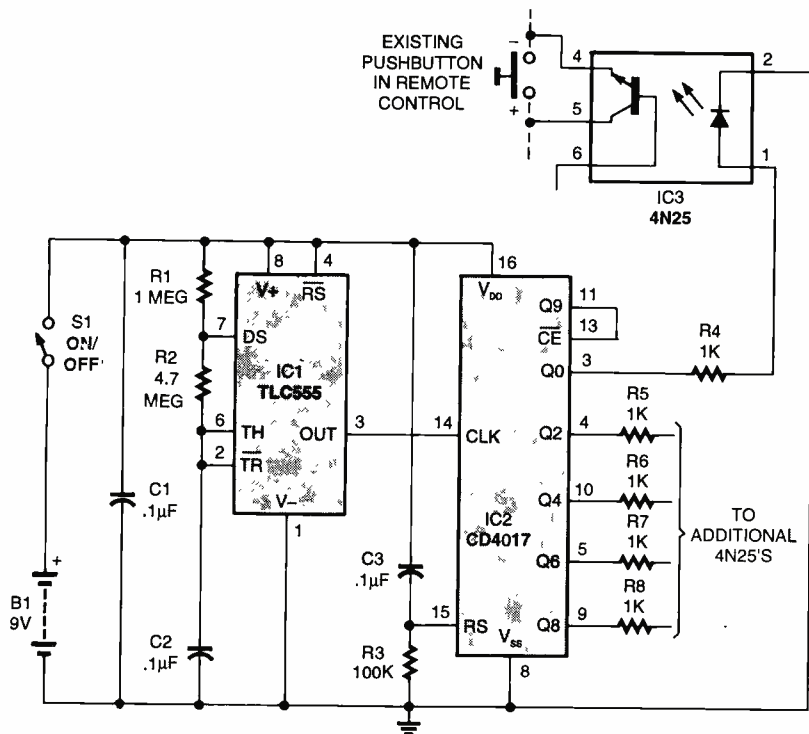

Fig. 2. This circuit "presses" five buttons sequentially on a universal remote control.
**A** If the time delays are critical, this is a job for a programmed microcontroller; but if you can accept slightly different timing, the circuit in Fig. 2 should be sufficient. When power is turned on, it "presses" each button for about 1.5 seconds and then waits 1.5 seconds before pressing the next one. After the fifth button, the action stops.
If you choose to use a microcontroller, write a program that outputs the binary patterns 00000001, 00000000, 00000010, 00000000, 00000100, 00000000, 00001000, and 00000000—each for the right length of time—and run the port outputs to optocouplers exactly as in Fig. 2. To learn more about microcontroller programming, see articles in the September 1998 and September and October 1999 issues of *Electronics Now*, available from our Reprint Bookstore.